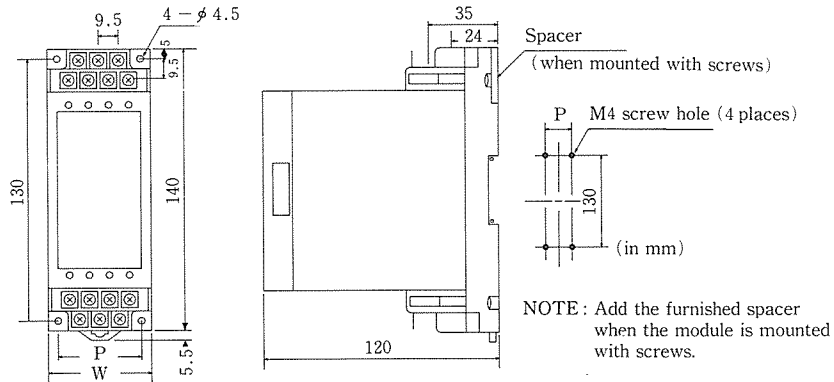

Fig. 7-3 Dimensional Diagram of Expansion Module
Fig. 7-3 shows the space required for the expansion module. The dimensions of 8-point module and 16-point module are the same except for the width (W) and pitch (P) between the horizontal mounting holes. Table 7-3 lists the W and P values of each model.